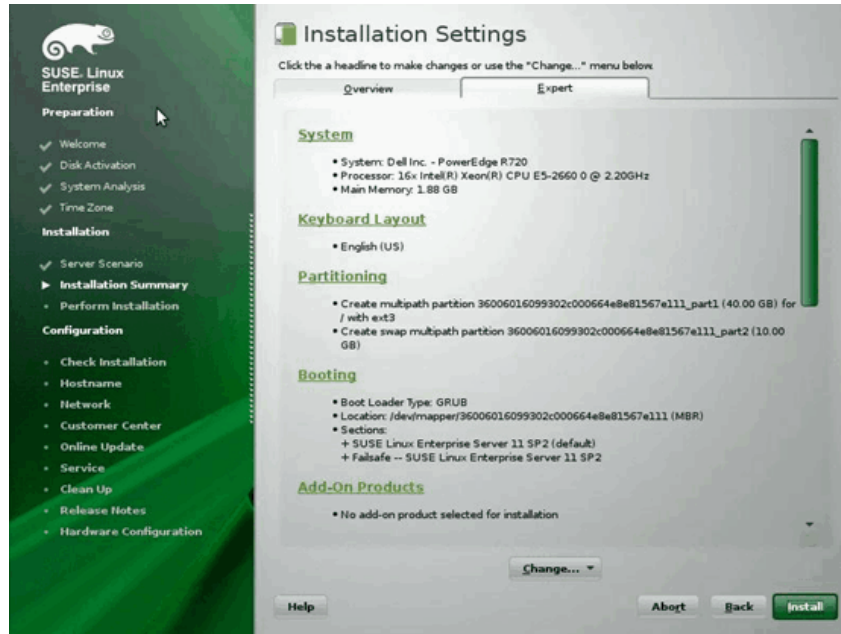

Figure 14-19. Installation Settings
12. On the Expert page on the Installation Settings window, click **Booting** (Figure 14-19).